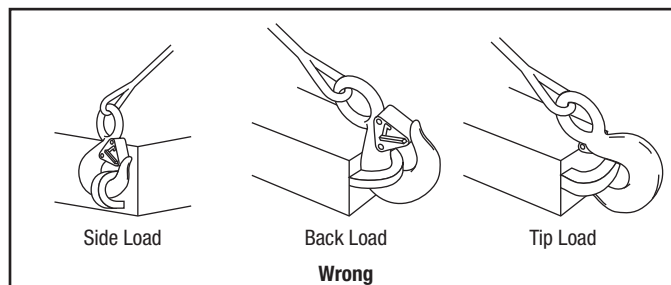

Figure 2
- Never side load, back load, or tip load a hook. (See Figure 2).